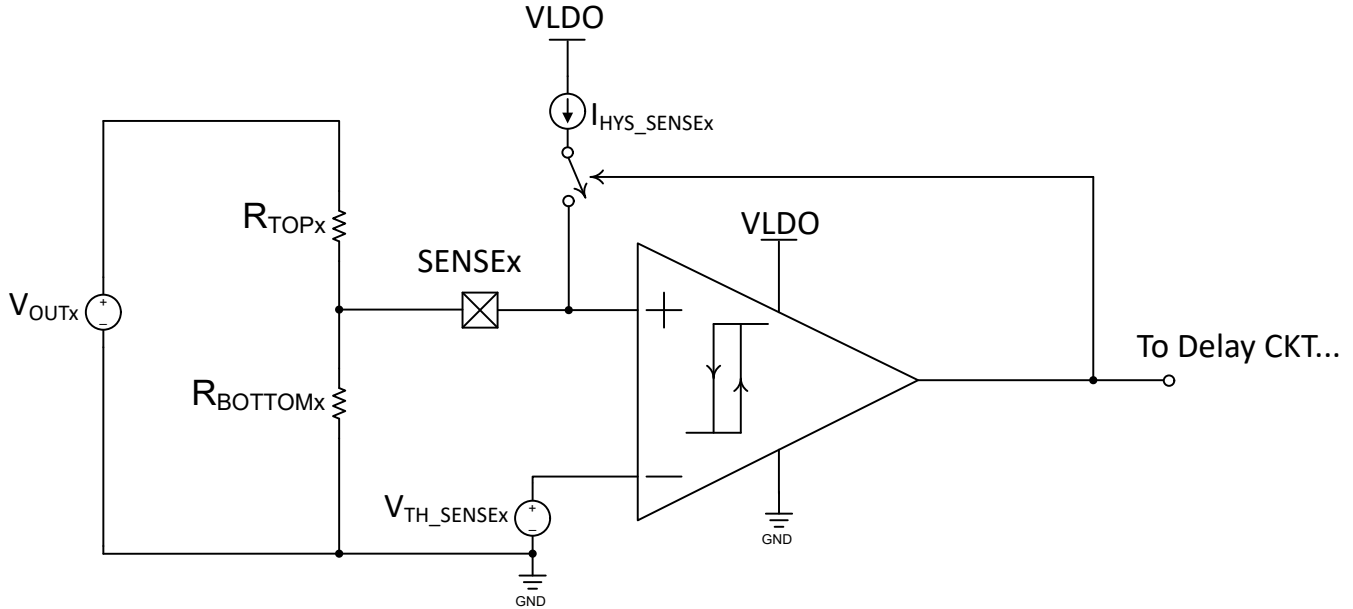

图 8-2. SENSE_x Comparators Inputs
The TPS7H3014 sequencer integrates four under-voltage (UV) comparators, with an accurate ($\pm 1\%$) threshold voltage (V_{TH_SENSEx}) of 599mV nominal. V_{TH_SENSEx} is measured at the EN_x outputs to account for comparator offsets in the threshold. Maximum flexibility is provided as external resistive dividers can be adjusted to sense any voltage rail (V_{OUTx}). 图 8-2 shows a conceptual diagram of the comparators connected to the SENSE_x inputs. As can be observed, the sensed voltage rail (V_{OUTx}) is attenuated (using an external resistive divider, R_{TOPx} and $R_{BOTTOMx}$) and compared against the V_{TH_SENSEx} voltage. Is recommended to maintain the steady-state SENSE_x voltage below 1.6V, in order to maintain the threshold (V_{TH_SENSEx}) accuracy.
This current is mirrored internally across all SENSEx inputs. This hysteresis current becomes active when the SENSEx voltage is greater than the threshold voltage (599mV $\pm 1\%$), same as $V_{OUTx} > V_{ONx}$ (Refer to 方程式 3 and 图 8-2). This current (I_{HYS}) multiplied by the R_{TOPx} resistance induces a voltage (V_{HYSx}) that is added to the SENSEx node, effectively boosting (incrementing) the node voltage. During sequence down, or an undervoltage event when the V_{OUTx} is decrementing, it will need to drop below the V_{OFF} voltage in order to be considered as an out of regulation (or fault). The hysteresis voltage is defined as: